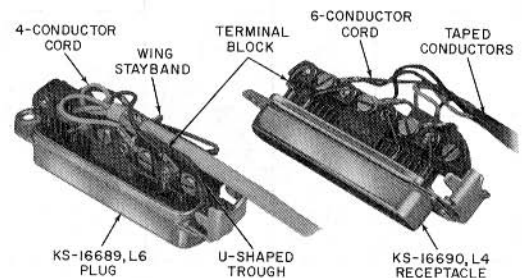

Fig. 9—153A and 153B Adapters, Hood Removed
- 153A adapter consists of a KS-16689,L6 plug with a terminal block fitted to the back of plug body (Fig. 9).
- A U-shaped trough on top and at cord entrance end of the terminal block assembly (Fig. 9) serves to retain the wing-type stayband of cords so equipped.
- Cords with up to ten conductors (Fig. 9 and 11) may be used with the 153-type